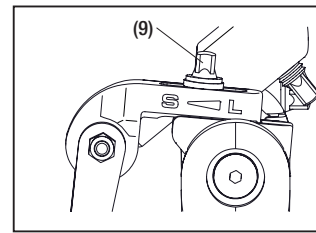
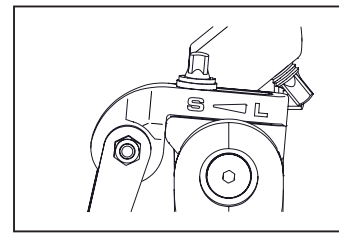
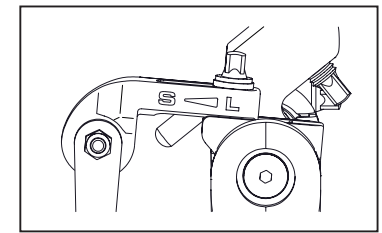

Fig.6
Fig.6-1
Fig.6-2
The turning radius of the cam can be adjusted freely by loosening the square headed bolt (9). When the turning radius of cam is longer, the feel of the pedal is lighter. When the radius is shorter, the feel of the pedal is heavier and the footboard returns faster. The factory standard position is shown in Fig.6. The shortest position is Fig.6-1 and the longest position is Fig.6-2. Once the desired angle is reached, tighten the bolt (9) firmly.